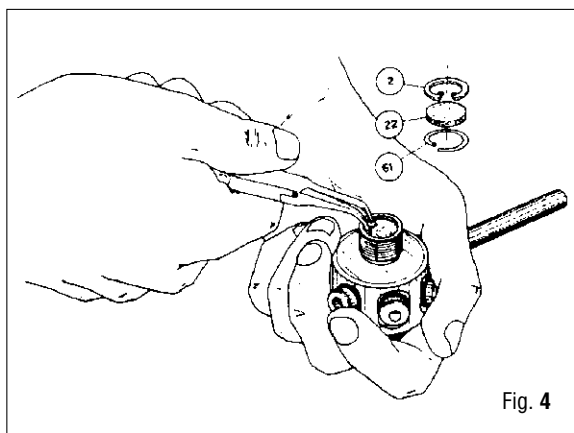

Fig. 4
- A. Using a 6 mm wrench (B-8), unscrew the DIN coupling attachment (51) and extract the O-rings (23) and (50).
- B. Extract the ring nut (49).
- C. Unscrew the DIN union attachment and remove O-ring (23).
8. Remove disassembly tool (BS) from LP port.
9. Remove filter retaining ring (2) with snap ring pliers (Fig.4)
10. Lift out sintered filter (22) and filter spring (61).
11. Remove low (20) and high pressure (53) port plugs. Remove O-rings (19) and (52).
1. Place the filter spring (61) and sintered filter (22) into first stage body (Fig. 4).
2. Compress the retaining ring (2) with snap ring pliers and position the ring over the sintered filter. Compress the sintered filter until the retaining ring fits into the groove in the first stage body.